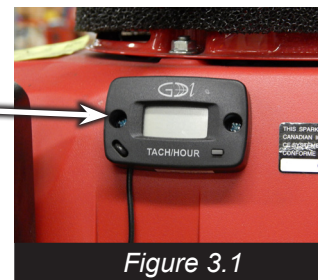

Figure 3.1
- Increase speed to operating position (**MAXIMUM 3400RPM's**) & begin grinding. Refer to tachometer (Figure 3.1) for operating speed.